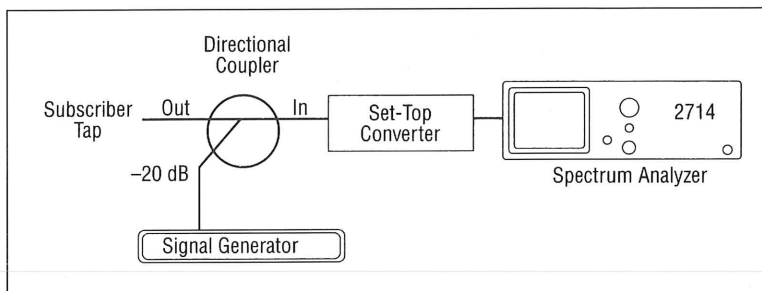

Figure 22. Setup for measurements at the output of a set-top converter.
CW Signal Generator: Capable of producing a signal equal in amplitude and 300 kHz lower in frequency than the visual carrier of the channel under test – as measured at the input to the converter when connected as shown in Figure 22.
Directional Coupler: 20 dB, installed "backwards" as shown in Figure 22.
1. Set up the equipment as shown in Figure 22. Initially, bypass the set-top converter by connecting the directional coupler directly to the analyzer. Set the output of the generator to zero.
4. Connect the directional coupler to the converter as shown in Figure 22. Adjust the set-top converter to the channel to be tested. Connect the 2714/2715 to the